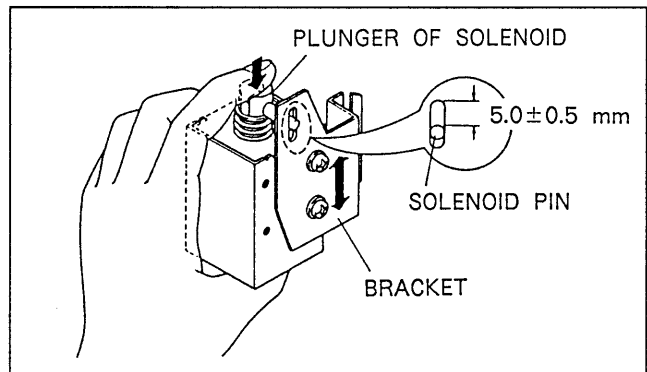

Fig. 6-8-2. Bracket Mounting Position Adjustment
5. As shown in Fig. 6-8-2, first adjust so that the clearance between one end of the brackets long hole and the solenoid pin is $5.0 \text{ mm} \pm 0.5 \text{ mm}$. Then secure the bracket firmly.